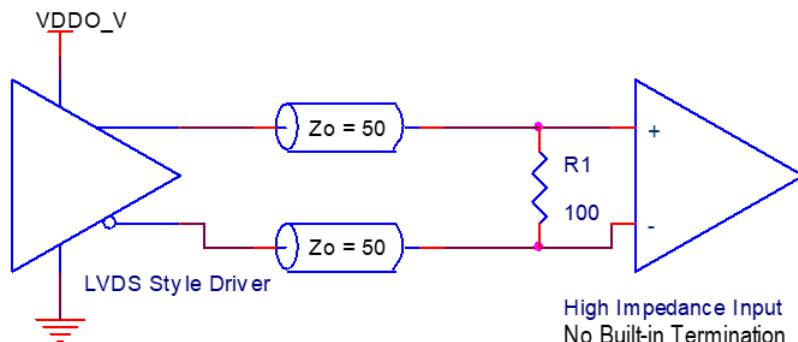
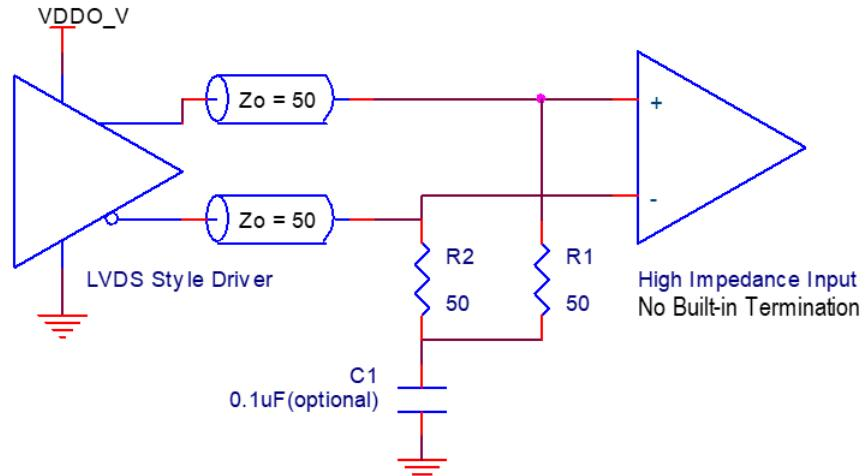
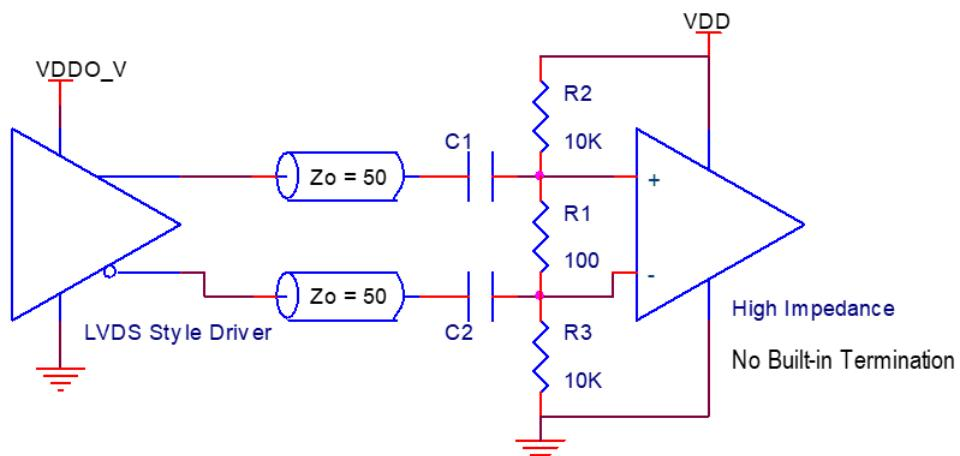

Figure 30. LVDS Style Driver Termination (DC Coupled)
Figure 31. LVDS Style Alternative Driver Termination (DC Coupled)
Figure 32. LVDS Style Alternative Driver Termination (AC Coupled)[2]
Unlike the LVPECL style driver, the LVDS style driver does not require a board-level pull-down resistor. Figure 30 and Figure 31 show typical termination examples with DC coupling for the LVDS style driver. A termination example with AC coupling is shown in Figure 32. All three of the figures are for LVDS receivers with a high-input impedance (no built-in 100Ω termination).
2. For receivers with built-in 100Ω termination that provides its own DC offset (self-bias): Apply the AC-coupled termination shown in Figure 32 and do not populate the resistors R1, R2, and R3.